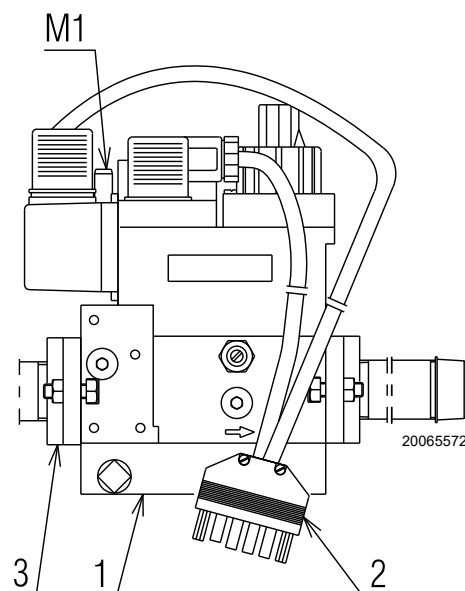

Fig. 15
The gas train 1)(Fig. 15) can be installed on both the left side and the right side of the burner.
- unscrew the screws of the 6 pin plug 2)(Fig. 15) of the gas train;